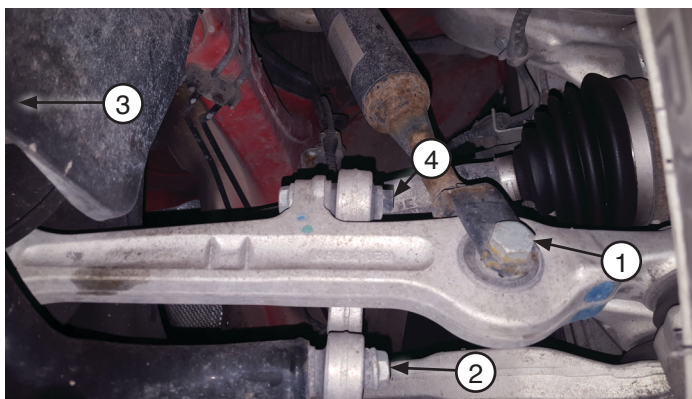

fig. 2
2. Remove lower shock bolt from track control link (bolt 1 in Fig. 2).
3. Disconnect the stabilizer bar (bolt 2 or 4 in Fig. 2).
4. Unbolt the track control link from the chassis (bolt 3, which is off the picture, in Fig. 2).
7. Loosely install the clevis bolt into the lower control arm (Figs. 2 & 3). Also, loosely reinstall the track link to chassis bolt. Loosely reattach the sway bar (Fig. 2). Do not tighten these at this time.